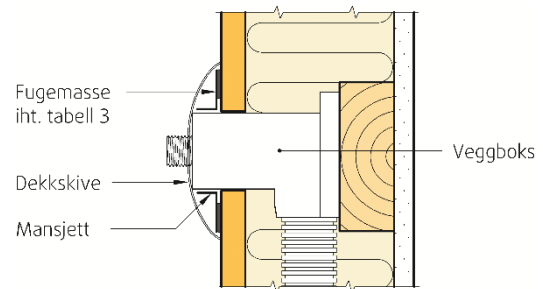

Fig. 5
- Sleeves delivered with the wall boxes shall be attached to the bathroom panel using Bostik Silmax or CT1 sealant, shown in fig. 5.